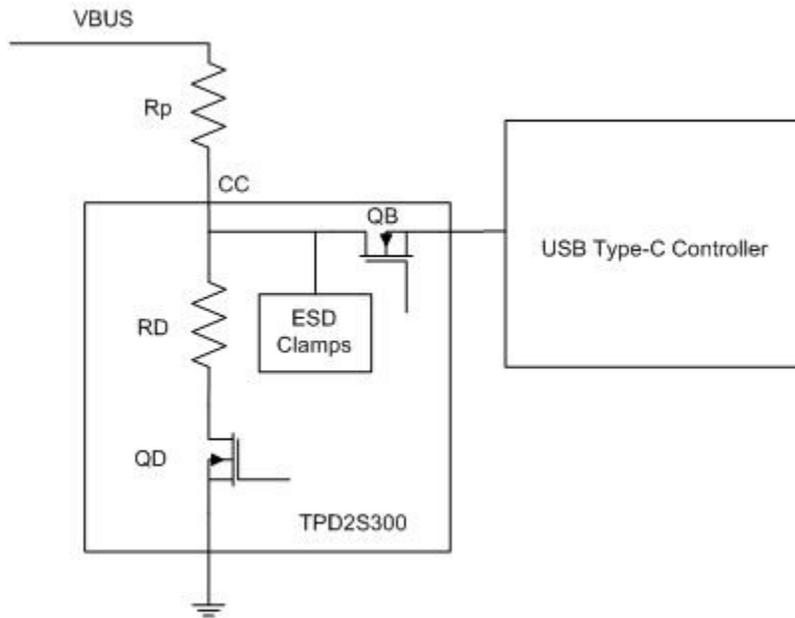

Figure 3. TPD2S300 Circuit for the CC Pin
Another way to protect the USB Type-C controller is to use a blocking field-effect transistor (FET), labeled as QB in Figure 3, QB to isolate the USB Type-C controller from V_{BUS} . The QB is inserted between the USB Type-C receptacle and USB Type-C controller. It can be off when an overvoltage event occurs at the CC pin of the USB Type-C receptacle so that the USB Power Delivery controller does not see such a high voltage. However, this will bring an additional path consisting of a pull-down resistor (R_D in Figure 3) and its control FET (QD in Figure 3). QD will be ON to perform the R_D on CC pin in the event of a dead battery. The additional logic circuit for QD may also sacrifice some board space.
A good choice is to adopt a USB Type-C port protection integrated circuit (IC) such as the TPD2S300, which integrates all of the necessary functions for a USB Type-C device. This IC requires no additional protection and logic circuitry. Electrostatic discharge (ESD) protection is integrated as well. Figure 3 shows a typical circuit using the TPD2S300.